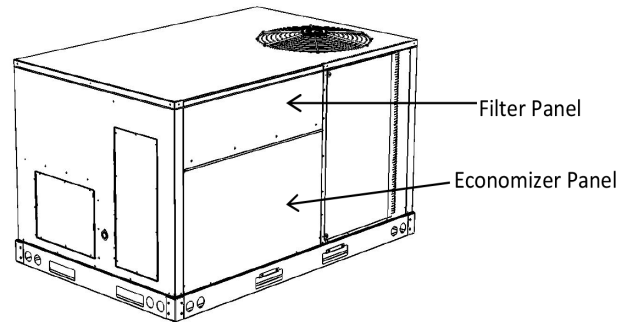

FIGURE 6 - REMOVE PANELS
2. Take Filter Access Panel off of unit. This panel can be discarded. (see Figure 6).
3. Remove economizer panel from return air section of unit (see Figure 6). This panel can be discarded. Keep removed screws for use in later step.